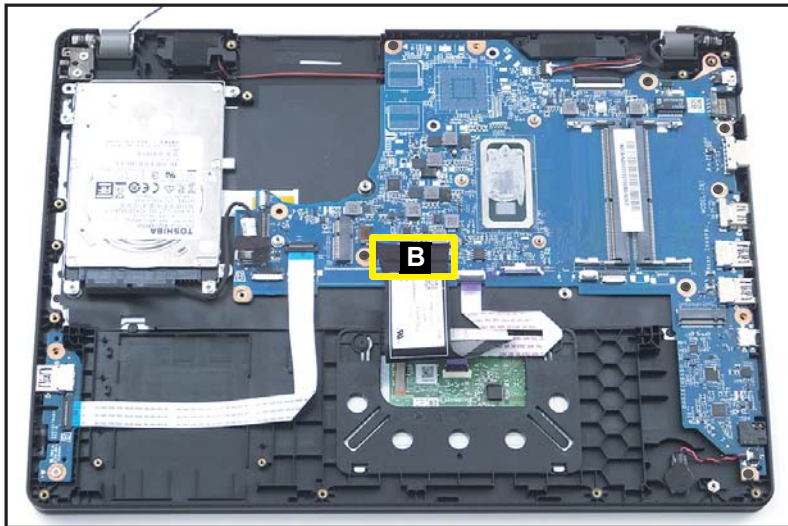

Figure 1-45. Mainboard Removal
4. Remove the adhesive tape on the keyboard FPC connector (B) (Figure 1-45).